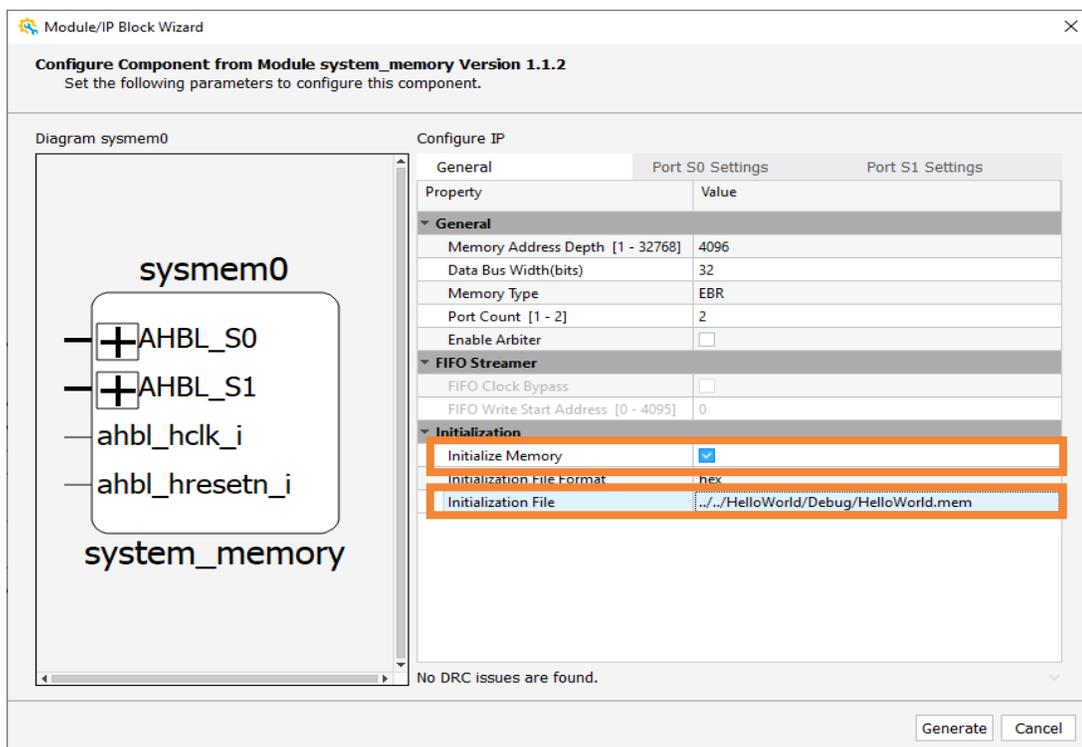

Figure 4.5. Configure Module System Memory
- (Optional) In Propeller Builder, update the SoC design to set the preloaded software. Enable the checkbox for **Initialize Memory** for system\_memory IP module from the **Initialization** area of the **General** tab, and set **Initialization File** (Figure 4.5) generated from the corresponding Hello World C project in the Creating Hello World C Project section.